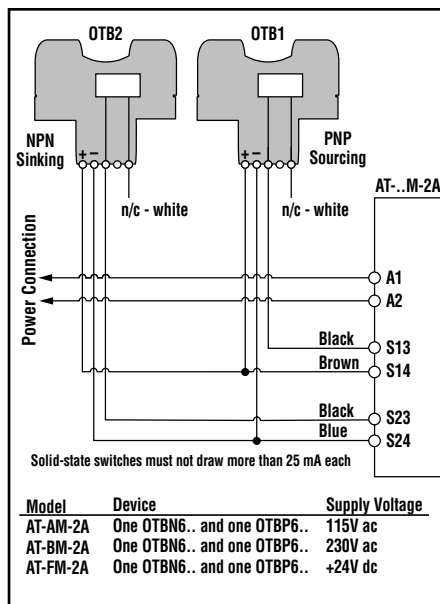

Figure 5b. Type IIIA hookup to two OTB touch buttons with PNP/NPN outputs
**If OTB Touch Buttons with PNP/NPN outputs are used, the System must be connected as shown in Figure 5b.** Electronic actuation devices other than OTB Touch Buttons must share the same voltage supply with the Safety Module (see Electronic Hand Control WARNING on page 7).